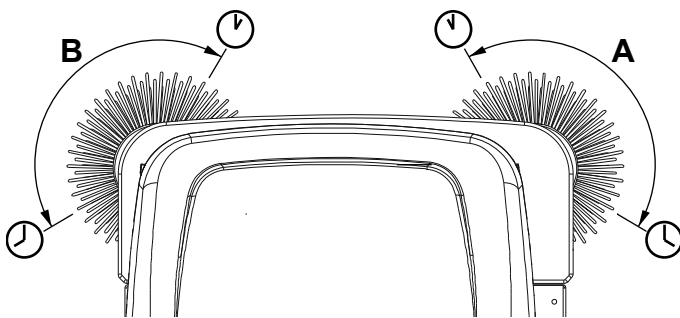

Figure 4
3. Turn the ignition key (64) and start the machine.
4. Lower the side broom with the lever (52) and let it run for 1 minute.
5. When lowered, the side broom (9) (15, optional) should be contacting the floor as shown in the figure (A and B, Fig. 4).